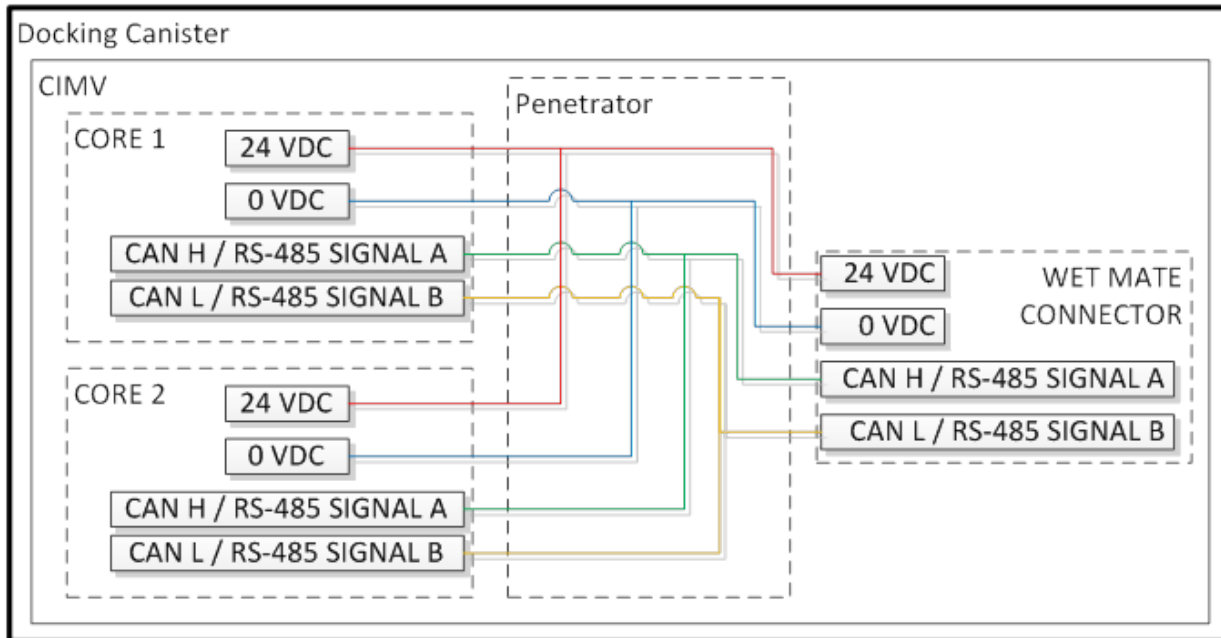

Figure 24: Typical CANBus or ModBus Dual Core Electrical Connector
- 14.4 For dual core CIMV configurations, the electrical wiring is shared between two cores as shown in Figure 24.